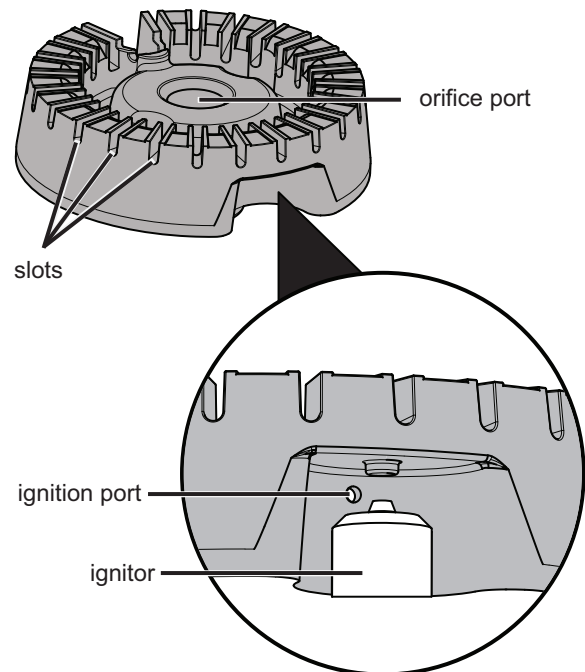

Figure 25: Sealed burner components
3. Use a toothbrush to clean all over the burner head (see Figure 25).
4. Use the toothbrush to clean the slots and holes in the burner (see Figure 25).
5. Use a needle or fine wire to clean out the ignition port (see Figure 25).